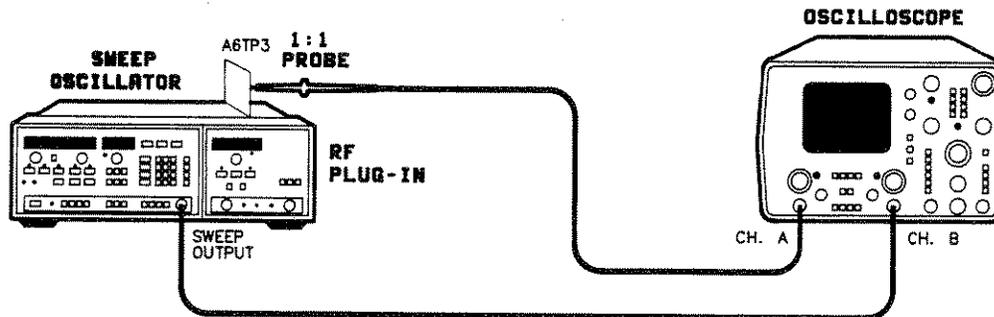

Figure 5-25. Low and Mid-Power SRD Bias Adjustment Test Setup
10. Connect the equipment as shown in figure 5-25. The output of the YTM should remain disconnected.